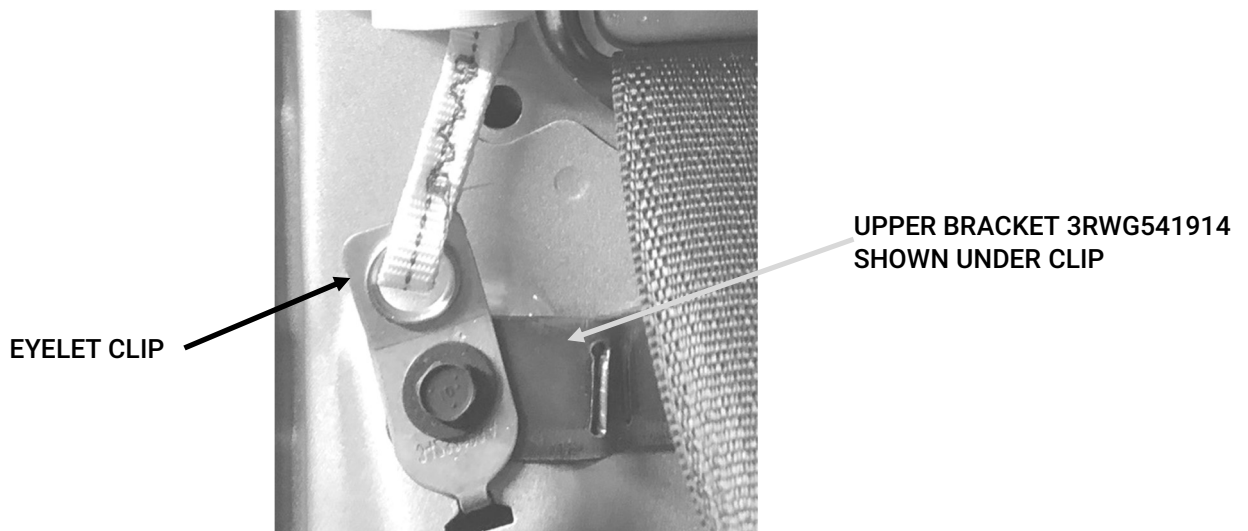

Figure 9
- D. Remove lower tether eyelet clip using 7mm socket and remove trim. (Fig. 9)